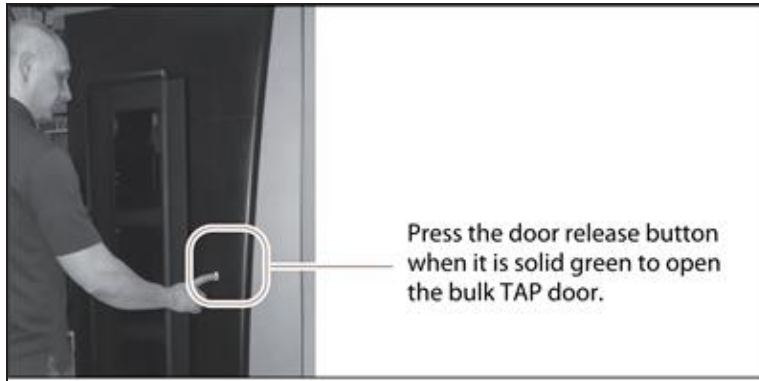

Figure 144 Press the door release button to open the door.
- d. When all of the magazines have been retrieved or when a bulk TAP is full, the carousel rotates to face the outside of the library and the door release button LED turns solid green. Press the button to open the bulk TAP door (see Figure 144 on page 254).